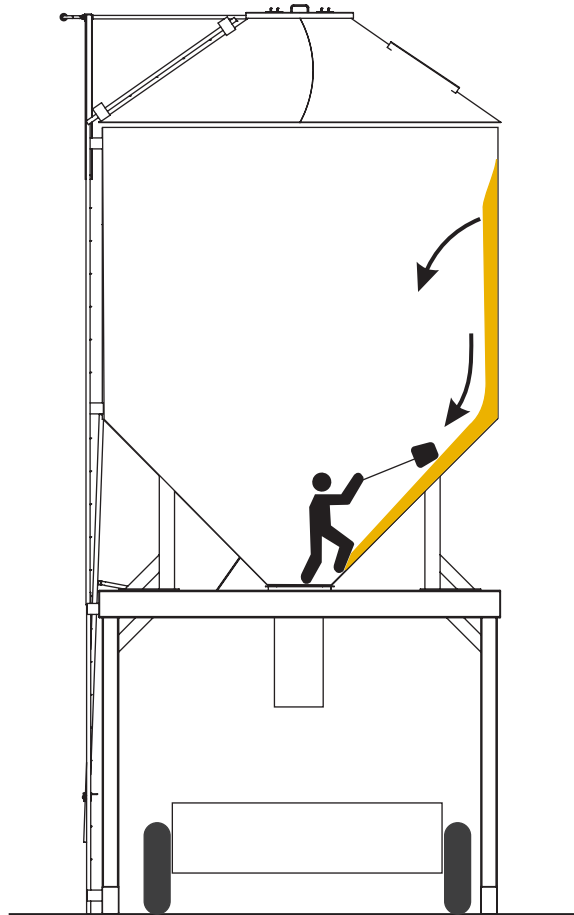

Figure 2-4 – Grain Caked on Side Walls
- Workers should not enter the silo when the grain accumulates, or “cakes” on the sides (Figure 2-4). Falling grain can engulf the worker.